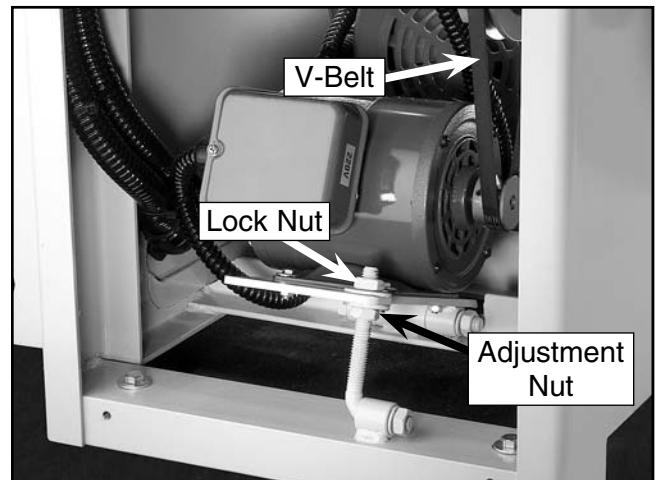

Figure 37. Table elevation V-belt.
2. Loosen the lock nut (**Figures 37 & 38**).